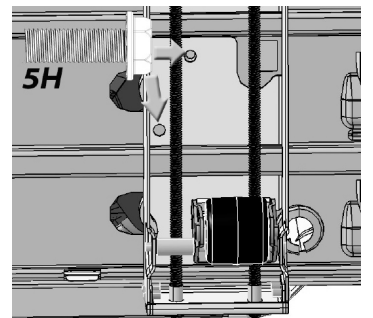

Fig. 6
- c. Using a 5H bolt and a power drill, fasten the bottom of the Leveler Assembly with a  $\frac{3}{8}$ " hex drill bit in whichever hole overlaps the screw hole (Fig. 6).